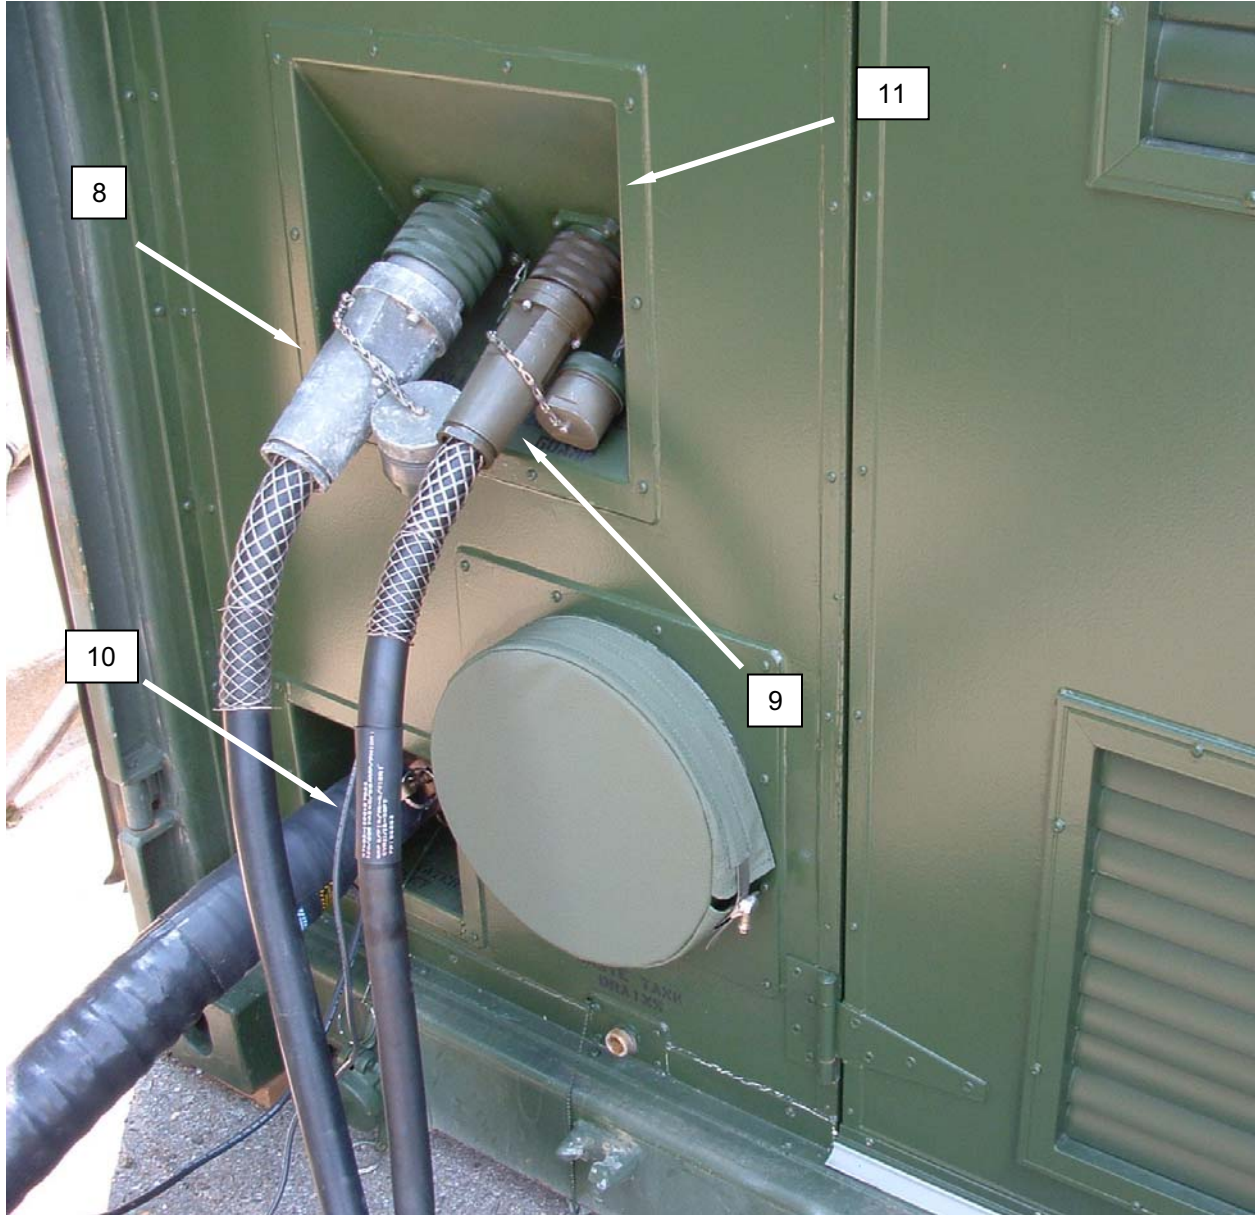

Figure 21. Disconnect Cables and Install Dust Caps during NBC Imminent or Actual Attack.
6. Disconnect the 100 A cable (**Figure 21, Item 8**), 60 A cable (**Figure 21, Item 9**) and the ground wire (**Figure 21, Item 10**) from the main power service panel (**Figure 21, Item 11**).